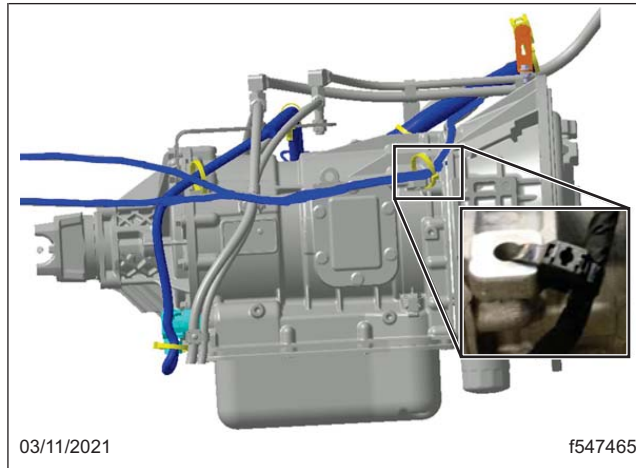

Fig. 11, Using a Butterfly Strap to Clip the Harness to the Transmission
4. For the 1K2K transmission and DEF wiring located at the front-right side, of the transmission, use a butterfly tie strap TYC DCT110HIR as pictured in Fig. 11.